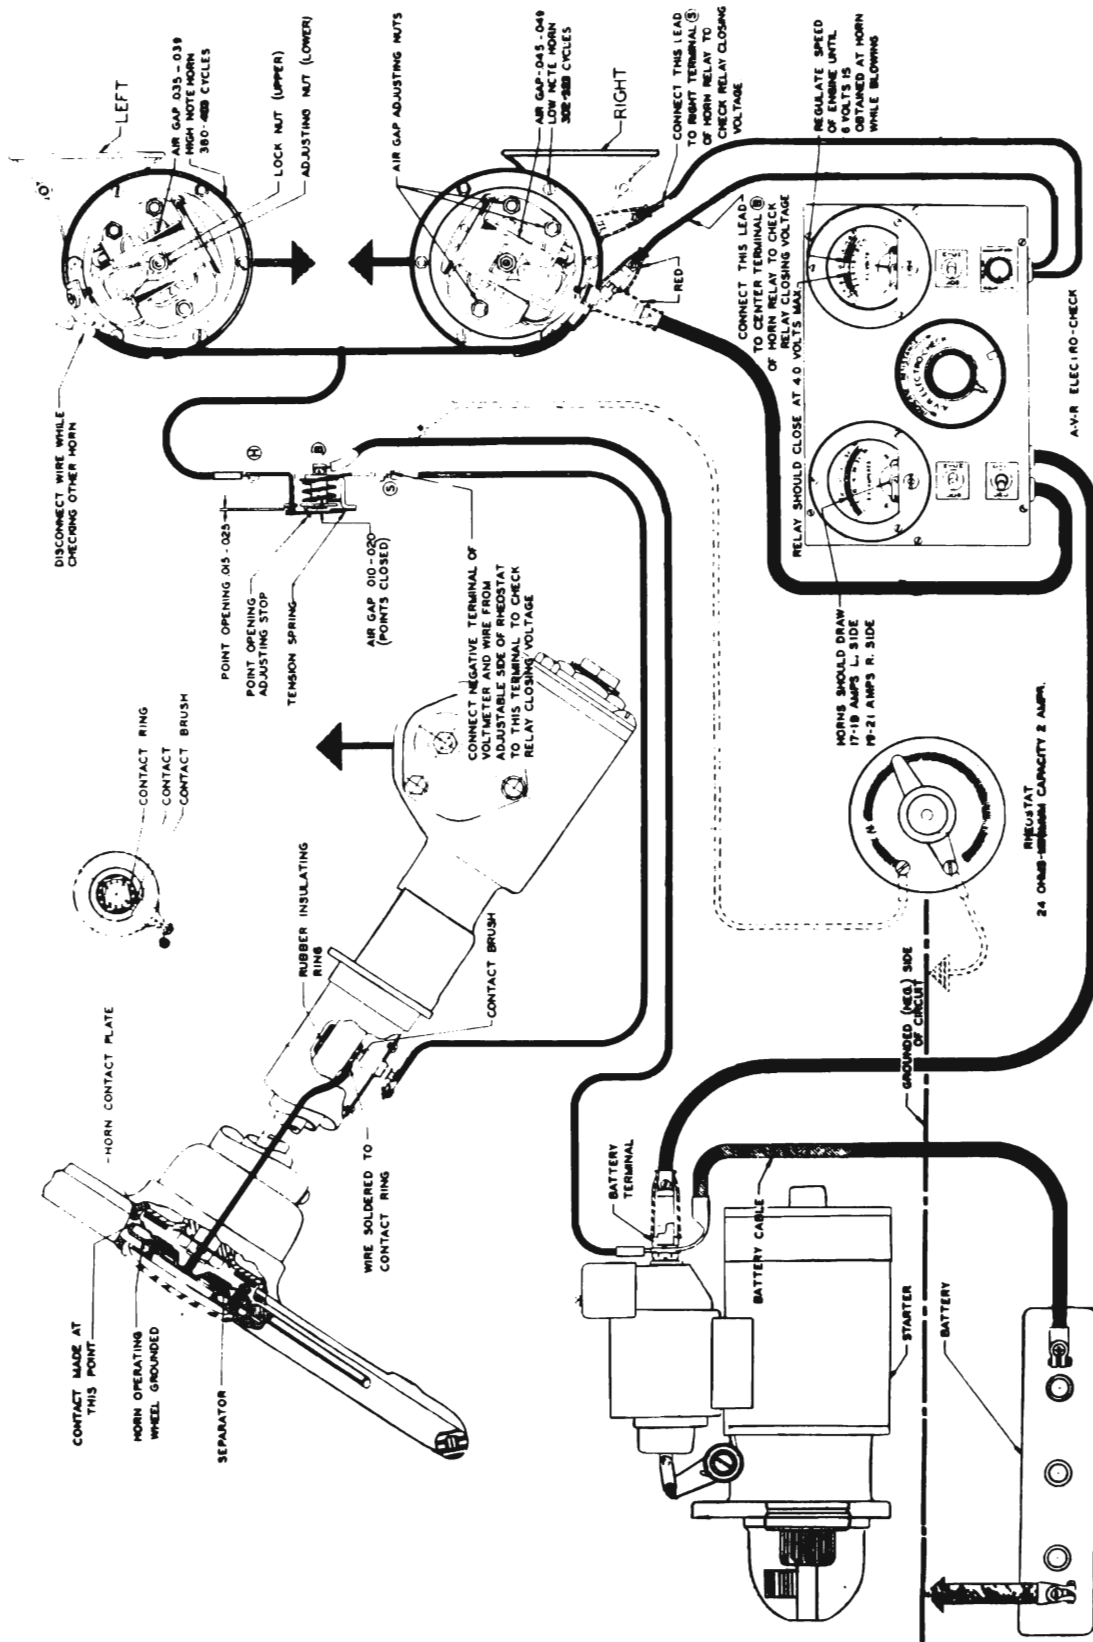

Fig. 12-81. Connection Diagram for Checking Horns
- (a) Disconnect one horn and connect ammeter in series with the other horn. See Fig. 12-81. This can be done easily by clipping one of the A.V.R. ammeter wires to battery terminal on starter and the other to the horn terminal.